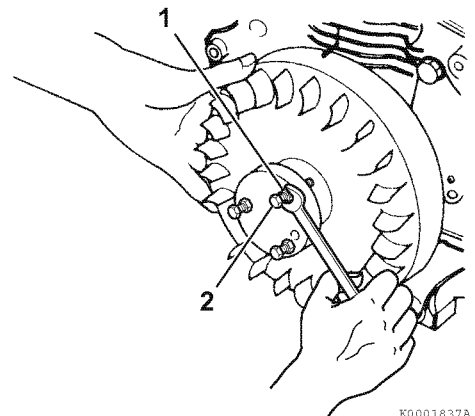

Figure 9-14
6. Assemble the flywheel puller by threading one nut on each screw (2, Figure 9-14) all the way to the screw head.
11. Tighten each upper nut (1, Figure 9-14) evenly in a cross pattern to apply tension to flywheel, keeping puller plate parallel to flywheel. Alternately continue to tighten upper nuts until flywheel comes loose from crankshaft. If necessary, lightly tap on the center of the puller plate to assist in “popping” the flywheel loose from the crankshaft.